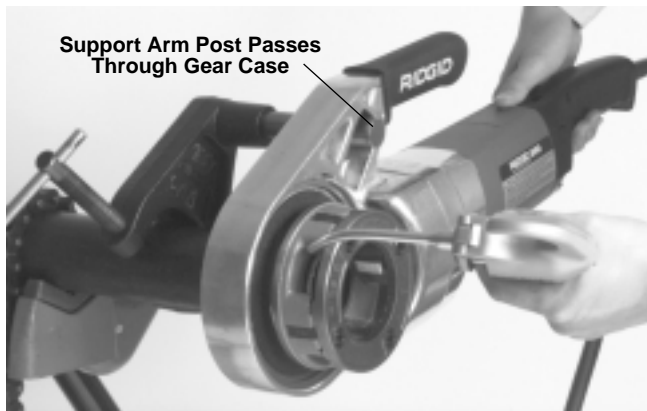

Figure 7 – Threading Pipe and Applying Oil
- Simultaneously actuate the ON/OFF switch and exert pressure against the Die Head with the palm of free hand to assist in starting thread. Apply plenty of thread cutting oil to the dies during threading. This will reduce the torque required to thread and improve the thread quality (Figure 7).